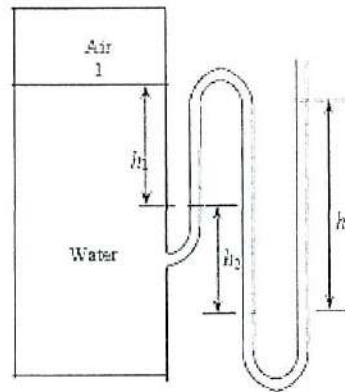

Figure 1 / Rajah 1
b) The water in a tank is pressurized by air, and the pressure is measured by a multifluid manometer as shown in **Figure 1**. Determine the gage pressure of air in the tank if $h_1 = 0.4$ m, $h_2 = 0.6$ m, and $h_3 = 0.8$ m. Take the densities of water, oil, and mercury to be 1000 kg/m^3 , 850 kg/m^3 and $13\,600 \text{ kg/m}^3$, respectively.